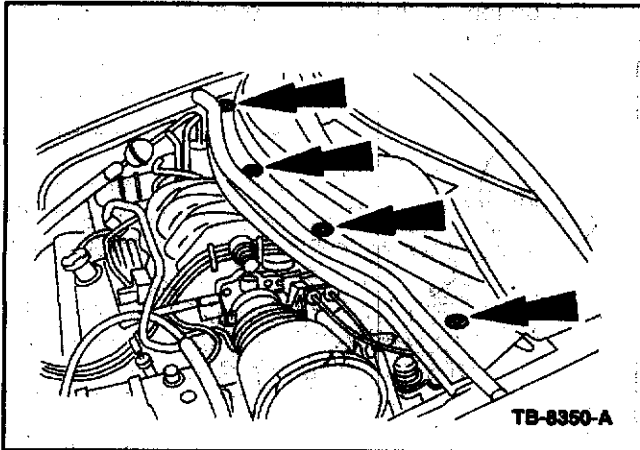

Figure 4 - Article 06-14-10
2. Remove the screws. (Figure 4)